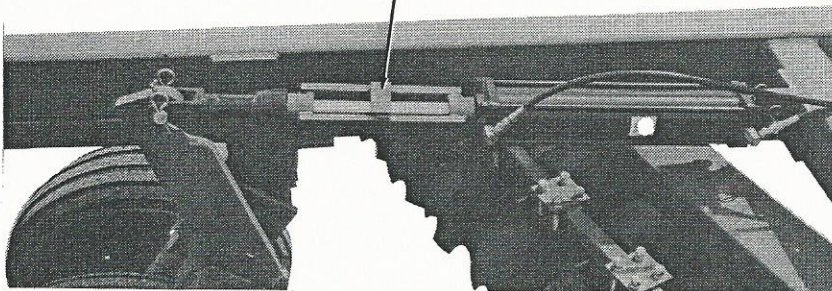

Figure 10
A. TO INSTALL HYDRAULICS FOR LIFTING (Figure 10)
- (1) A 3-1/2 x 16 D.A. Cylinder with Stroke Control and 1" Pins is furnished (31-1/2" collapsed, 47-1/2" expanded). Install Butt End to Anchor on Mainframe and Rod End to Cylinder Pivot Arm on left Wheel Carriage with Ports up or to the right. Tighten Clevis Locking Bolt.
CAUTION: Install Mechanical Transport (Figure 10) and block securely in place before working under or around components. Implement could fall if Hydraulic Cylinder fails resulting in possible bodily injury or death.